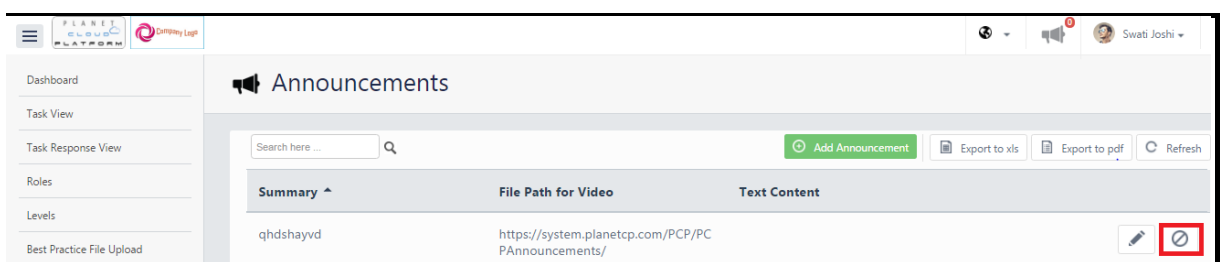

Figure 8-7
- Step 1 – To delete any existing Geofence, simply click on the Trash icon (as shown in Figure 8-7) for that Geofence and it will be deleted.